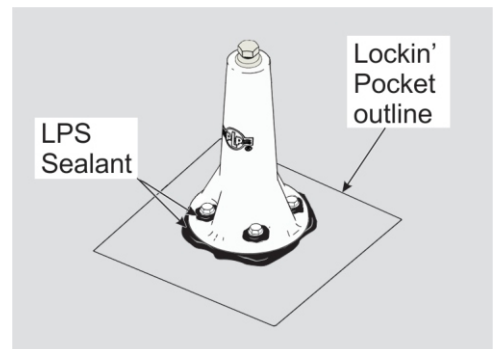

Figure 2-2: Apply LPS Sealant to Super Post Base Plate & Hardware
- C. Using LPS sealant, seal the perimeter of the Super Post base plate and around the attaching hardware. (See Figure 2-2)